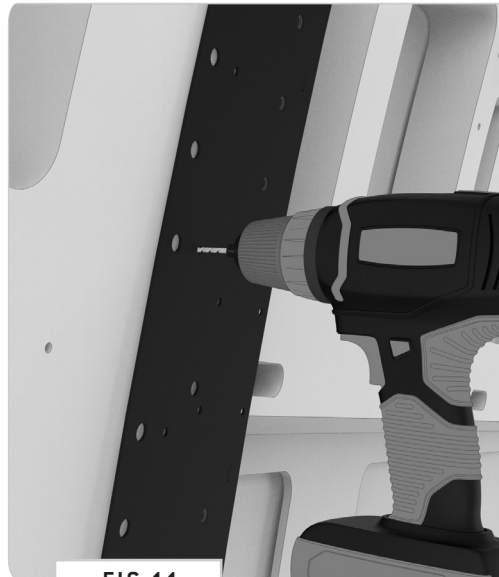

FIG 11
5.2 Securing the Passenger Side Rear Bracket: Double-check your measurements against your marks and proceed to secure the **Passenger Side Rear Bracket** by drilling through all of the **Rivet Holes** (**FIG 11**) and painting with a rust preventative paint.